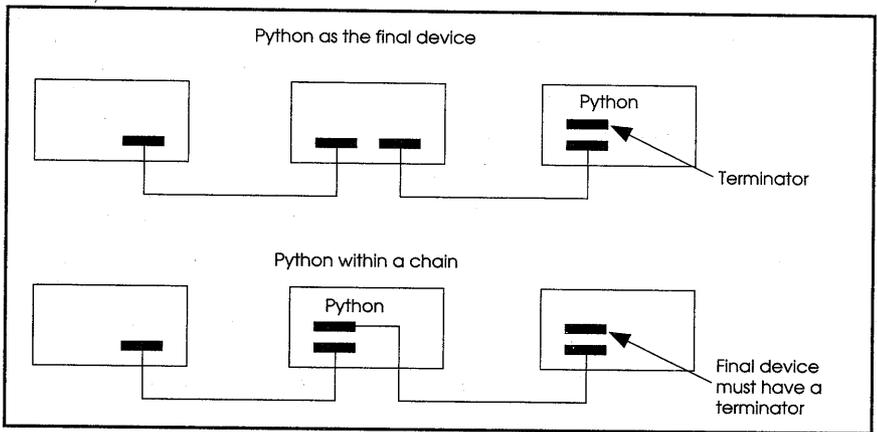

Figure 5. Daisy-chaining drives
- When the Python external drive is within the chain, interface cables from the preceding and following drives are connected. Termination is required on the last device on the chain. See Figure 5.